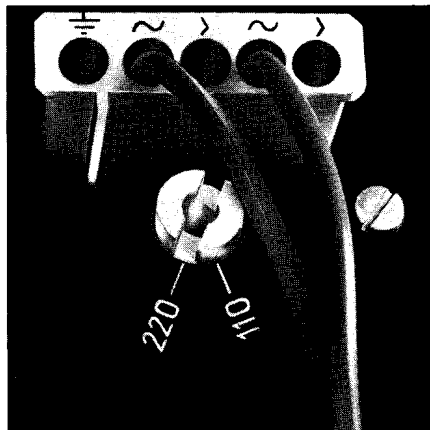

Fig. 2
- B. No. 213 982; AMP-No. 160 565/1 (Fig. 2) for 5-pole power supply plug
If the unit is to be connected to a power-transformerless ("ac-dc") radio, amplifier or other equipment, a suitable ground connection must be made to prevent a possible shock hazard. A contact is available for this purpose on the power connector (Figs. 2 and 3).